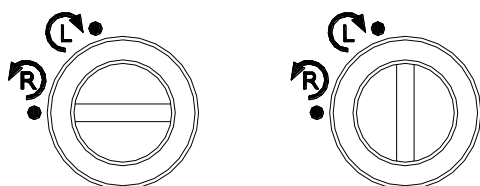

Fig. 4
The selection screw must be oriented with the groove vertical (L) or horizontal (R), otherwise the fuel unit will not function properly and damage could result (Fig.4)